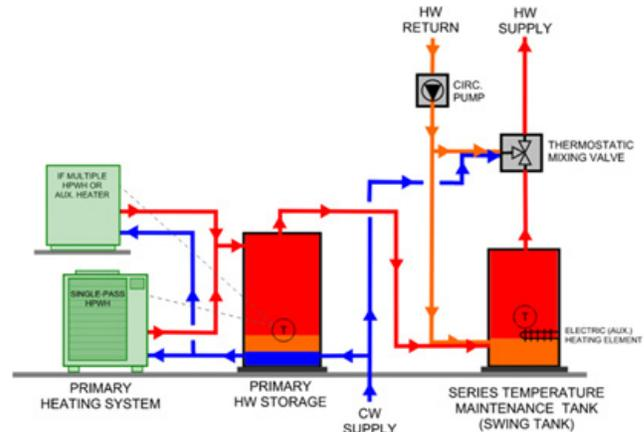
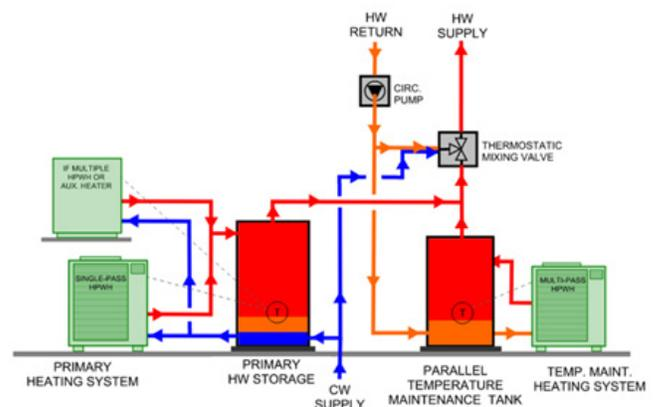

Figure 3: Single-pass primary HPWH system with series temperature maintenance tank (Swing Tank)
Figure 4: Single-pass primary HPWH system with parallel temperature maintenance tank and multi-pass HPWH (Parallel Loop Tank)
- 4 **Figure 3:**
- 4 **Figure 4:**
The equipment employed to heat the temperature maintenance load often includes a dedicated temperature maintenance tank and additional temperature maintenance heater. The dedicated temperature maintenance tank receives the warm circulation return water that would otherwise destratify the primary storage tank, which would cause a decrease in primary HPWH efficiency. There are two proven methods for configuring a dedicated temperature maintenance system: 1) Swing Tank, shown in Figure 3; and 2) Parallel Loop Tank, shown in Figure 4. These and other configurations are described below.
The swing tank design uses an unstratified tank (called the “swing tank,” or “series temperature maintenance tank” as seen in Figure 3) that is plumbed in series with the primary storage tank(s). As water is used by the occupants, hot make-up water flows from the high temperature primary storage tank and through the swing tank on its way to the fixtures. The primary storage water—much warmer than required delivery temperature—mixes with and heats the water in the swing tank as it passes through. Swing tank temperature will be highest during periods of heavy DHW use because there is a large flow of overheated water passing from the primary storage tank and through the swing tank on its way to the fixtures. During periods of low usage, the temperature in the swing tank will slowly drop. If the swing tank temperature drops too far, an electric resistance heating element will turn on to ensure the returning water circulation loop
When using a parallel loop tank design (Figure 4), the recirculation losses are reheated using a separate multi-pass heat pump. This configuration uses dedicated heat pumps for both the primary and recirculation heating. In a parallel loop tank configuration, the primary storage temperature can be kept lower if desired. A lower primary storage water temperature can allow heat pumps to operate more efficiently but may require a larger storage volume. More heat pumps are required in this configuration, which adds cost. Additionally, since overall HPWH capacity is reduced in cold weather, a parallel loop tank configuration may require additional heat pump capacity if the compressors are subject to cold ambient temperatures. The parallel temperature maintenance system is a good solution in applications with high temperature maintenance losses and relatively low DHW usage because the parallel temperature maintenance system utilizes a high-efficiency HPWH to satisfy the temperature maintenance load and does not require flow from the primary storage to provide passive temperature maintenance heating.